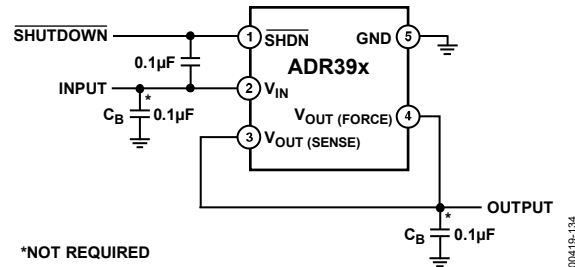

Figure 35.  $V_{IN}$  and  $\overline{SHDN}$  Capacitor
- Capacitor placed between  $V_{IN}$  and  $\overline{SHDN}$  as shown in Figure 35, or